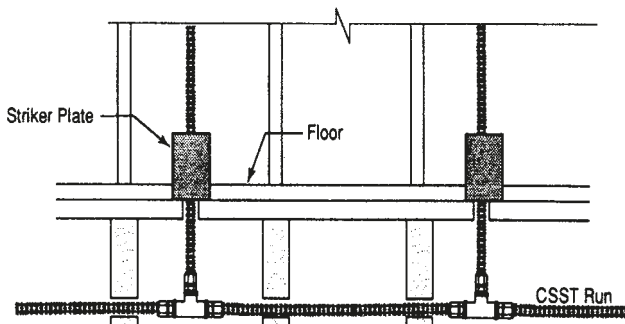

Figure: 4-4 Multiple outlets along main tubing run
3. Multiple gas outlets – when multiple outlets are supplied from a single run of piping, each downstream outlet branch can be connected to the main run using a tee fitting which can be located in a concealed location. (See Figure: 4-4).